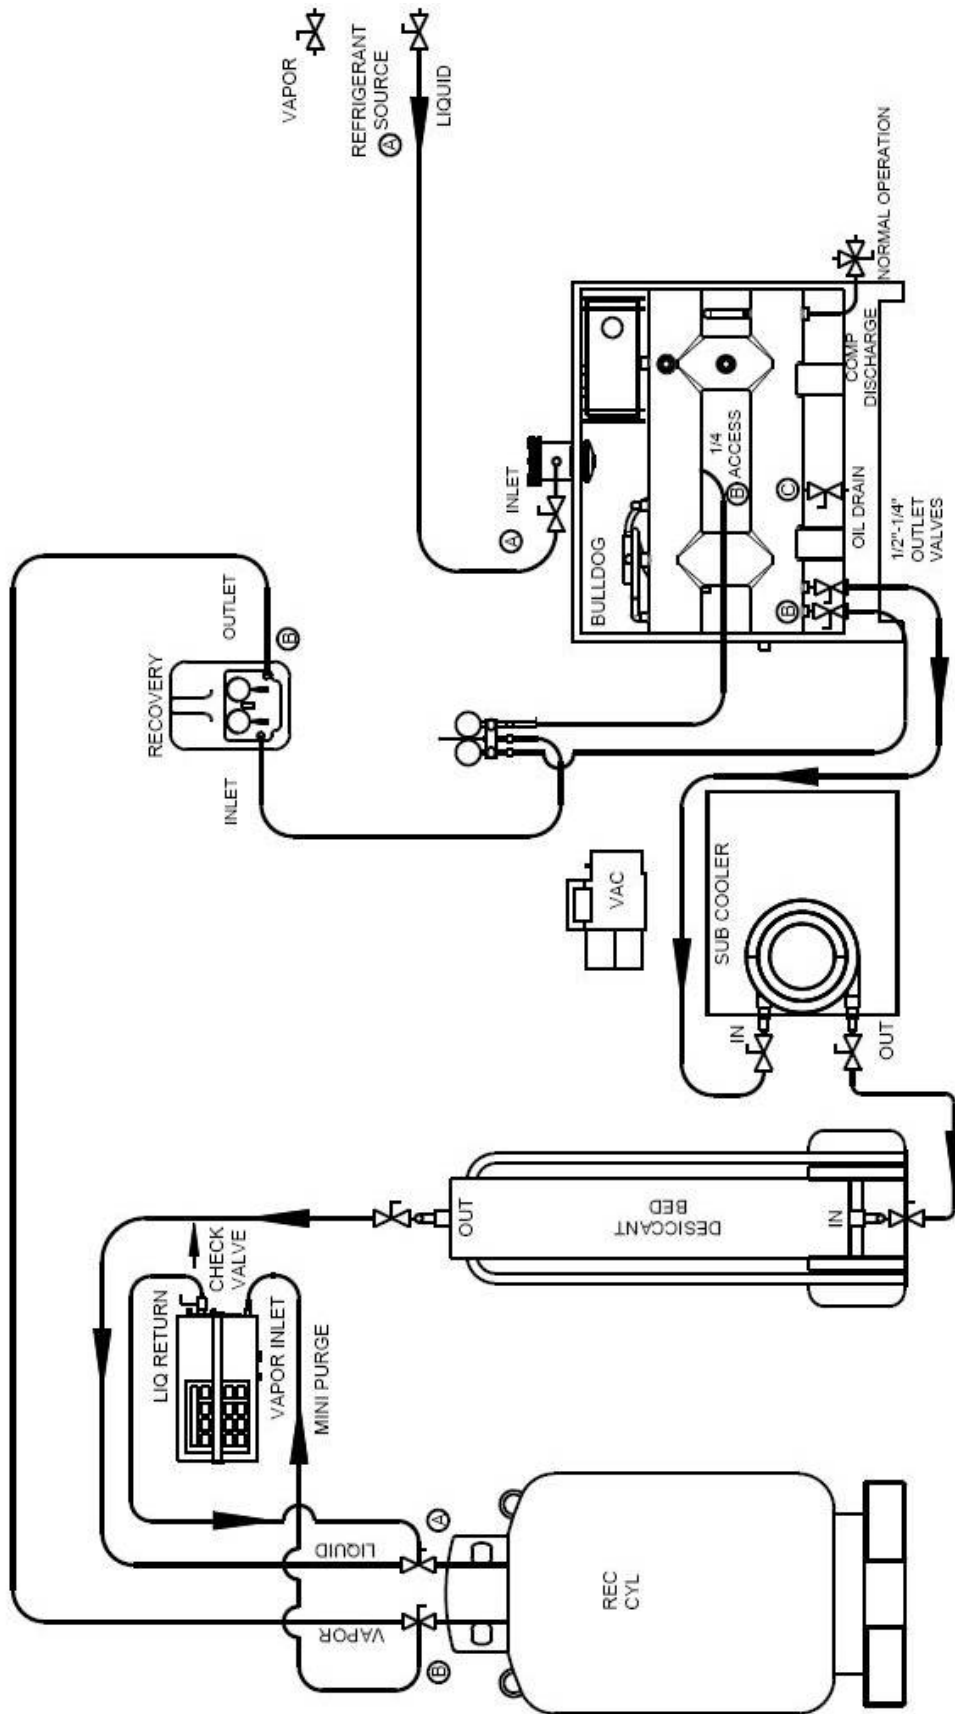

FIGURE 4: RECLAIM
7. Close liquid valves on recovery cylinder and refrigerant source close isolation valves on hoses (FIGURE 4) (A)
8. Unit must be recovered to prevent any loss of Refrigerant. By connecting manifold set to 1/4" access ports and to a small recovery unit as shown in Figure 4 (B)